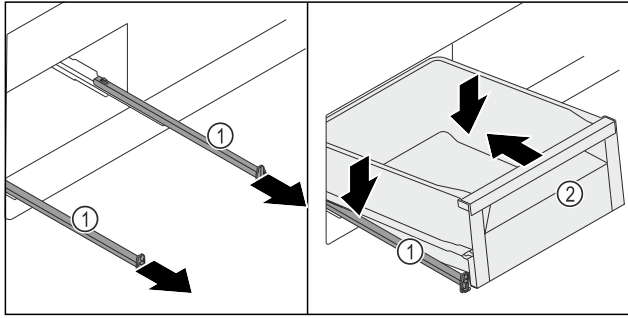

Fig. 123
- ▶ Pull out the rails Fig. 123 (1).
- ▶ Hold the rails Fig. 123 (1) firmly and place the drawer Fig. 123 (2) diagonally from above onto the rails Fig. 123 (1).
- ▶ Push the drawer Fig. 123 (2) on the rails Fig. 123 (1) to the back as far as it will go.